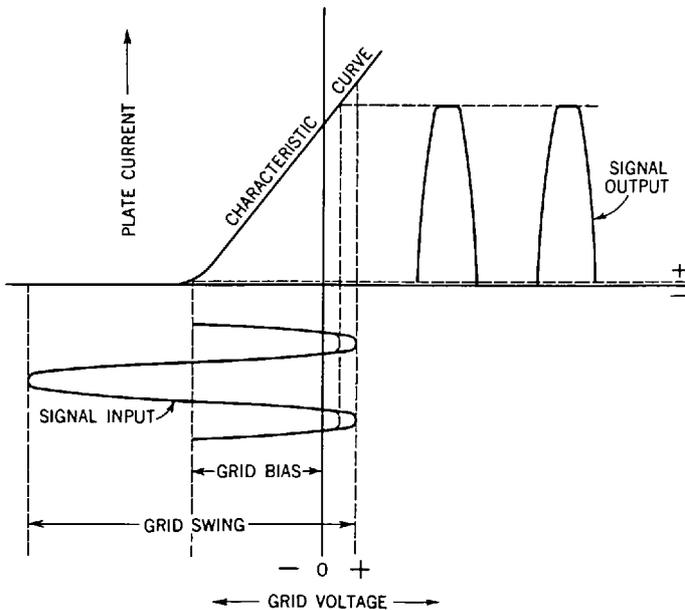

Fig. 39-8. Graph showing relationship between the input and output signals in a class B amplifier.
**The Class B Amplifier.** By increasing the negative grid bias to the point where there is practically no flow of plate current at zero-signal voltage (point of cutoff), we obtain our *class B amplifier* (Fig. 39-8). You will note that the curves for class B resemble those for class AB2, except that a larger power output may be obtained because of the larger grid swing ( $e_g$ ).
When the tube is operated as a class B amplifier, the signal-voltage swing is such that during the positive half of the swing (the time during which plate current flows), the tube operates over the whole linear section of the characteristic curve (Fig. 39-8). For this reason, the class B amplifier is often called a *linear amplifier*. The output current is proportional to the input voltage.